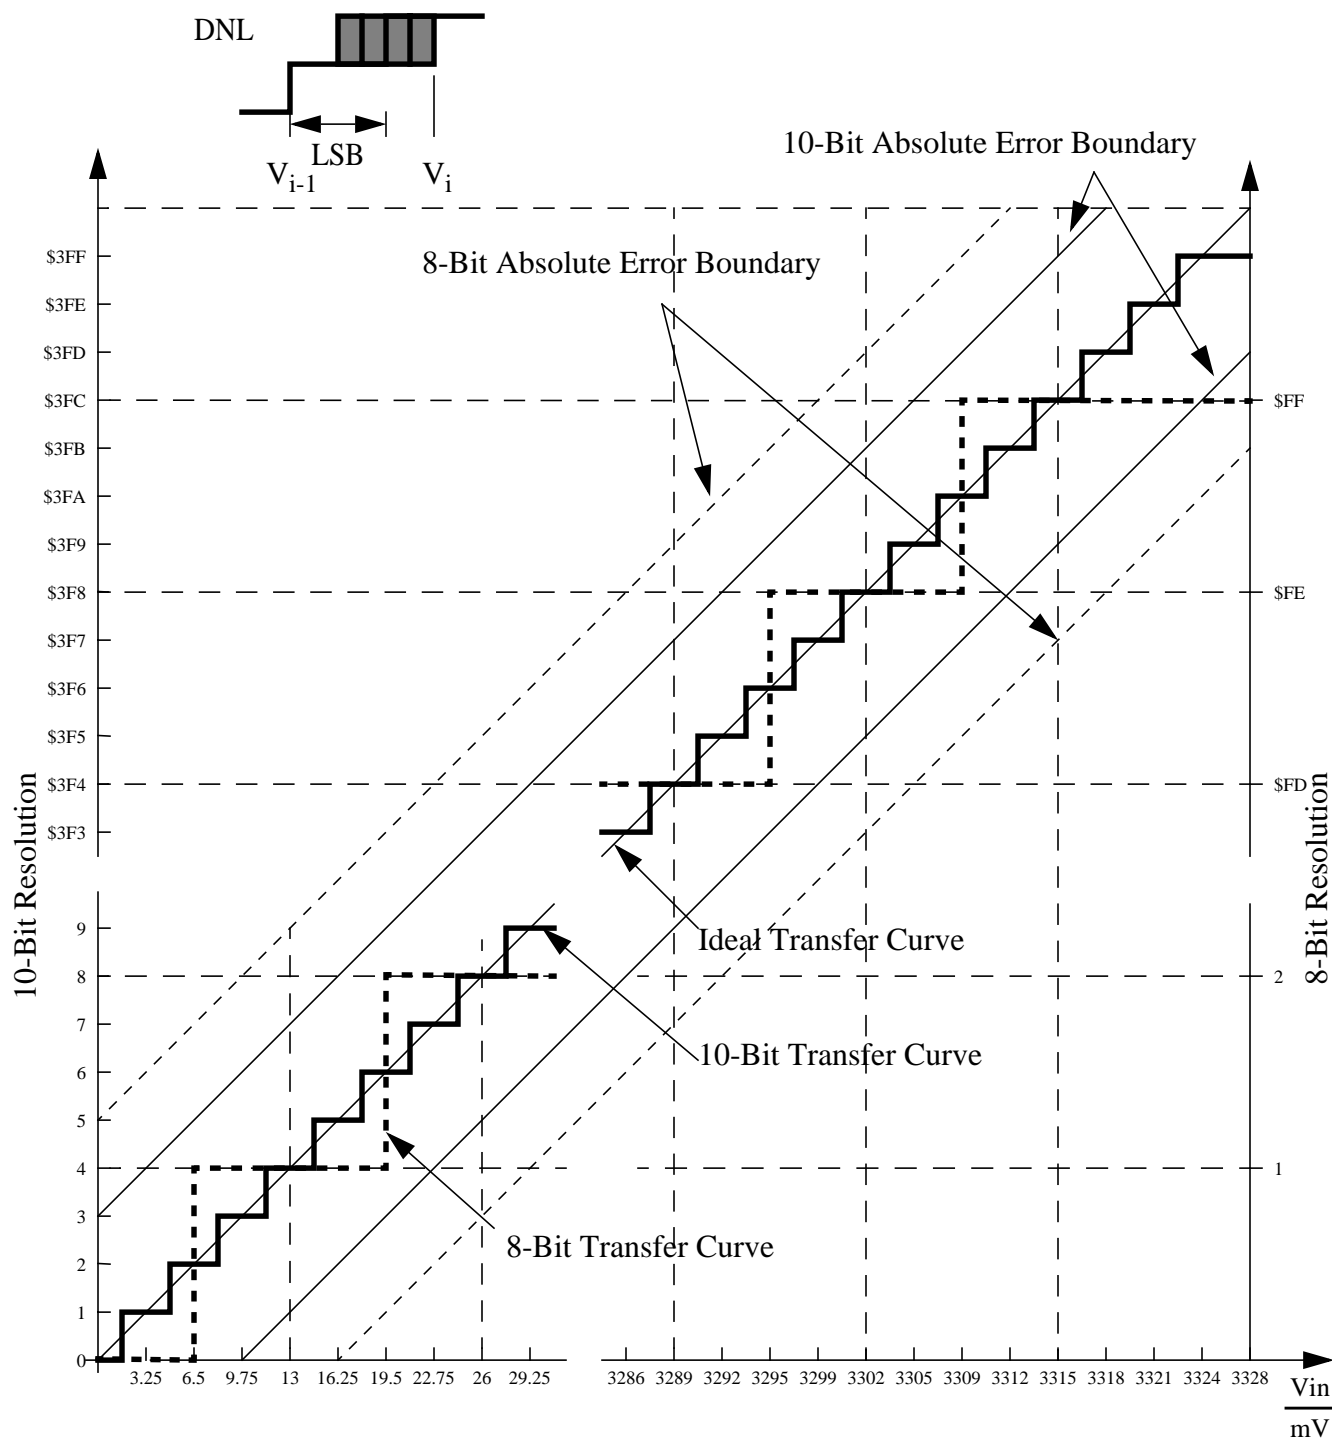

Figure B-2 ATD Accuracy Definitions
For the following definitions see also **Figure B-2**.
**NOTE:** Figure B-2 shows only definitions, for specification values refer to Table B-6.